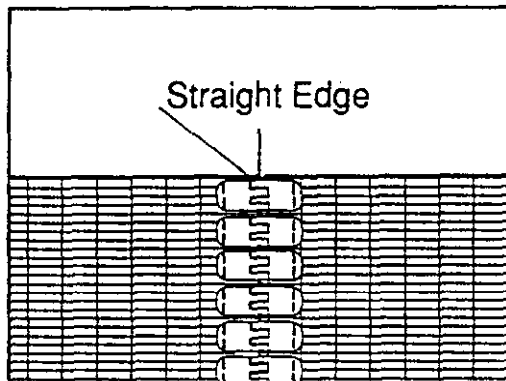

Figure 9
CONVEYOR BELT INSTALLATION/TENSION (Fig. 9 & 10)
6. Feed the lacing through the conveyor belt seam. Make sure the lacing is lined up. If the lacing is off one notch it will cause the belt to buckle and not run straight. Check for straightness with a straight edge once it has been installed. See Fig. 9. After the wire is centered, bend both ends of the wire to prevent the wire from working loose.